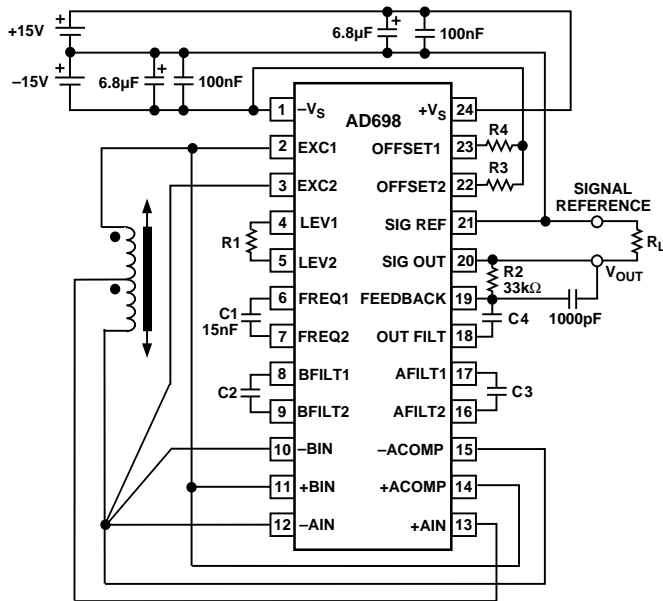
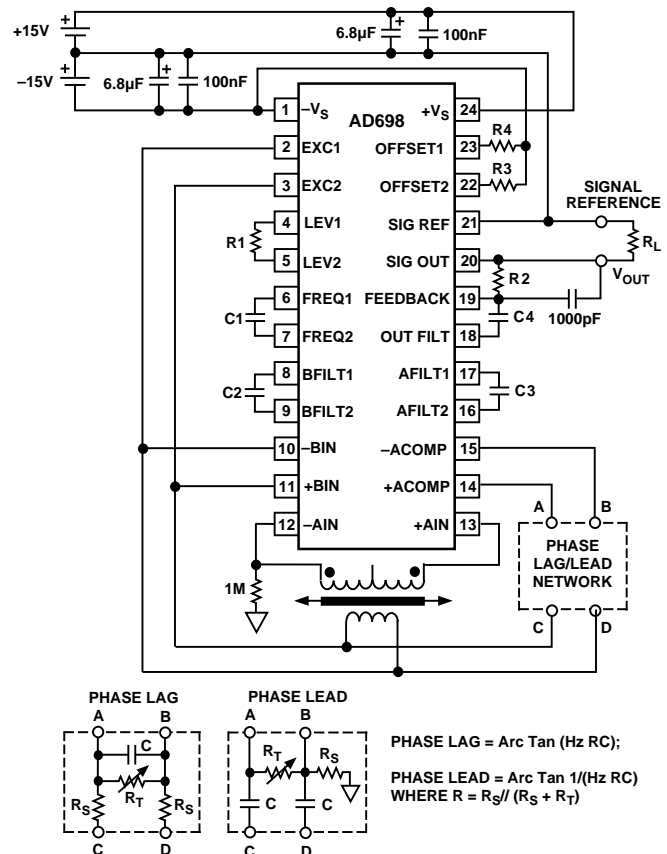
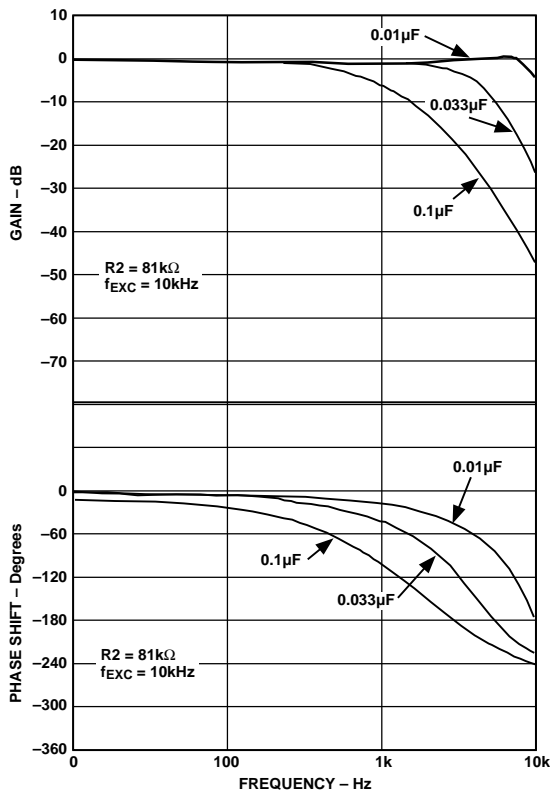
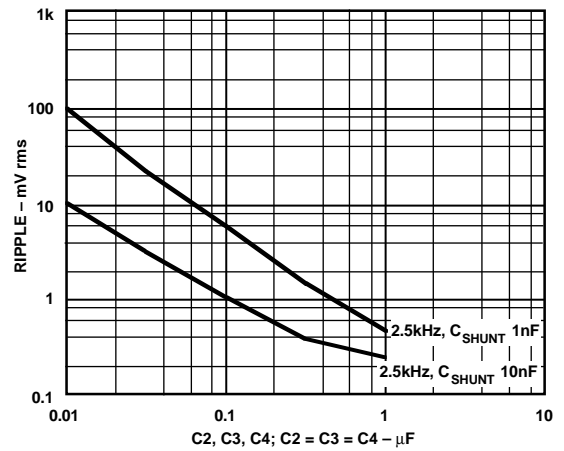

Figure 7. Interconnection Diagram for Half-Bridge LVDT and Dual Supply Operation
Figure 8. AD698 Interconnection Diagram for Series Opposed LVDT and Dual Supply Operation
Figure 16. Gain and Phase Characteristics vs. Frequency (0 kHz-10 kHz)
Figure 17. Output Voltage Ripple vs. Filter Capacitance
- 5Output ripple is a function of the AD698 bandwidth determined by C1 and C2. A 1000 pF capacitor should be connected in parallel with R2 to reduce the output ripple. See Figures 7, 8 and 13.
- 6R1 is shown in Figures 7, 8 and 13.
The AD698 can easily be connected for dual or single supply operation as shown in Figures 7, 8 and 13. The following general design procedures demonstrate how external component values are selected and can be used for any LVDT that meets AD698 input/output criteria. The connections for the A and B channels and the A channel comparators will depend on which transducer is used. In general follow the guidelines below.
Figure 7 shows the connection method for half-bridge LVDTs. Figure 8 demonstrates the connections for 3- and 4-wire LVDTs connected in the series opposed configuration. Both examples use dual  $\pm 15$  volt power supplies.
$V_{OUT}$  is measured with respect to the signal reference, Pin 21, shown in Figure 7.
Figure 16 shows a more limited frequency range with enhanced accuracy. The figures are transfer functions with the input to be considered as a sinusoidally varying mechanical position and the output as the voltage from the AD698; the units of the transfer function are volts per inch. The value of C2, C3, and C4, from Figure 7, are all equal and designated as a parameter in the figures. The response is approximately that of two real poles. However, there is appreciable excess phase at higher frequencies. An additional pole of filtering can be introduced with a shunt capacitor across R2, Figure 7; this will also increase phase lag.
When selecting values of C2, C3 and C4 to set the bandwidth of the system, a trade-off is involved. There is ripple on the “dc” position output voltage, and the magnitude is determined by the filter capacitors. Generally, smaller capacitors will give higher system bandwidth and larger ripple. Figures 17 and 18 show the magnitude of ripple as a function of C2, C3 and C4, again all equal in value. Note also a shunt capacitor across R2, Figure 7, is shown as a parameter. The value of R2 used was 81 kΩ with a Schaevitz E100 LVDT.